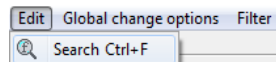

Fig. 167 – main menu options - search
**Search** – enabling to quickly find a particular cabinet in the database by using its code (Fig. 167) (available also under a keyboard shortcut <Ctrl+F>).